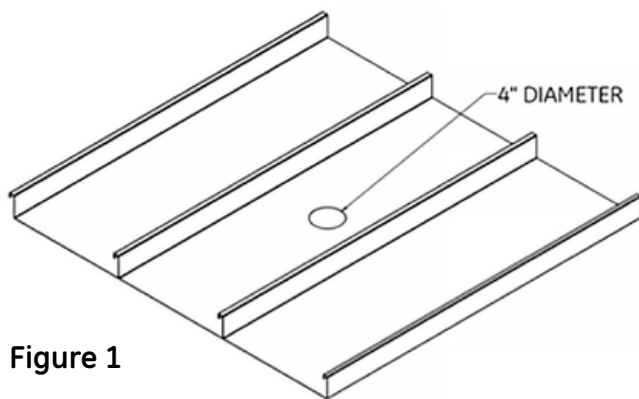
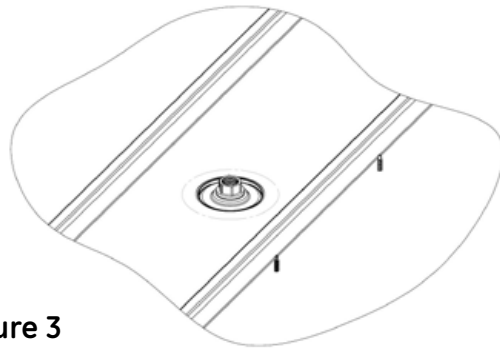

Figure 1
Figure 3
1. Drill a 4" open hole in the canopy. If an existing hole is less than 4", enlarge the hole to 4". (See Fig. 1)
2. The boss and hub should go through the center of the hole in Fig.1, such that the central gasket is positioned as shown in Fig.3.